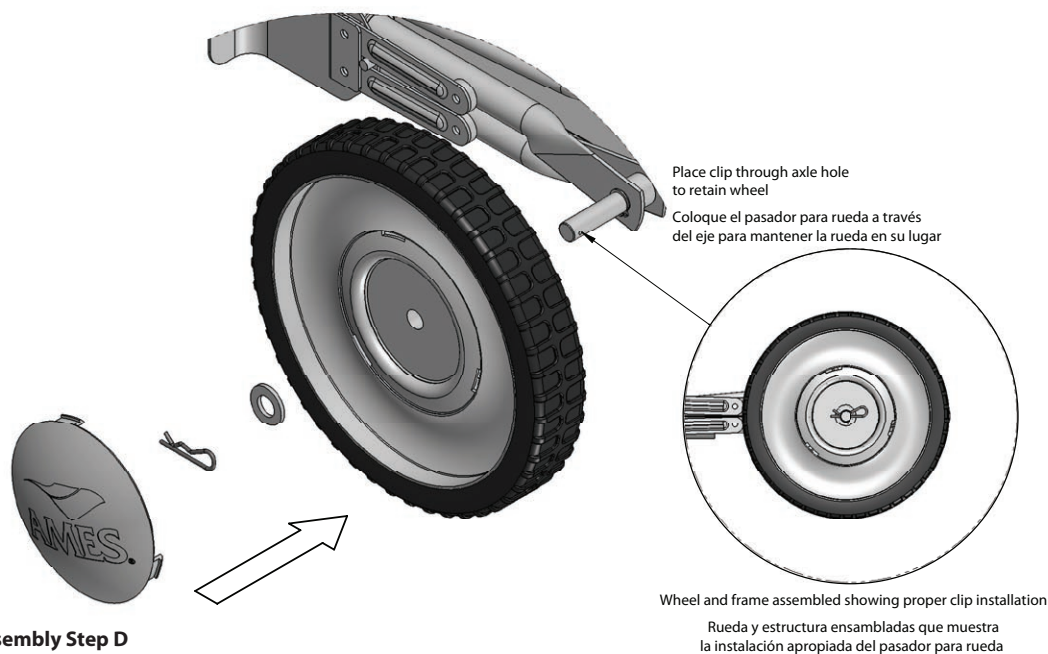

Figure 4: Rake and Go™ Assembly Step D
D) Attach Wheels: Assemble a Wheel onto the end of the Axle as shown in Figure 4. Place a Wheel Washer onto the same Axle end and retain with a Wheel Clip. Slide Wheel Clip into Axle as shown until the clip snaps over the Axle. Finish by aligning tabs of a Wheel Cap to slots on the Wheel and pressing to snap in place.